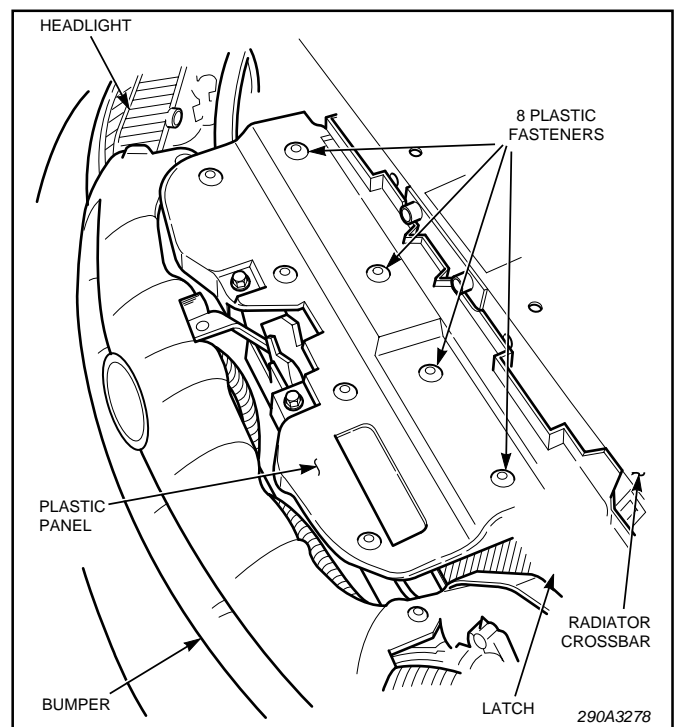

Figure 1.
1. Raise the vehicle hood. See figure 1. Locate the plastic panel between the radiator crossbar and the grille fascia.